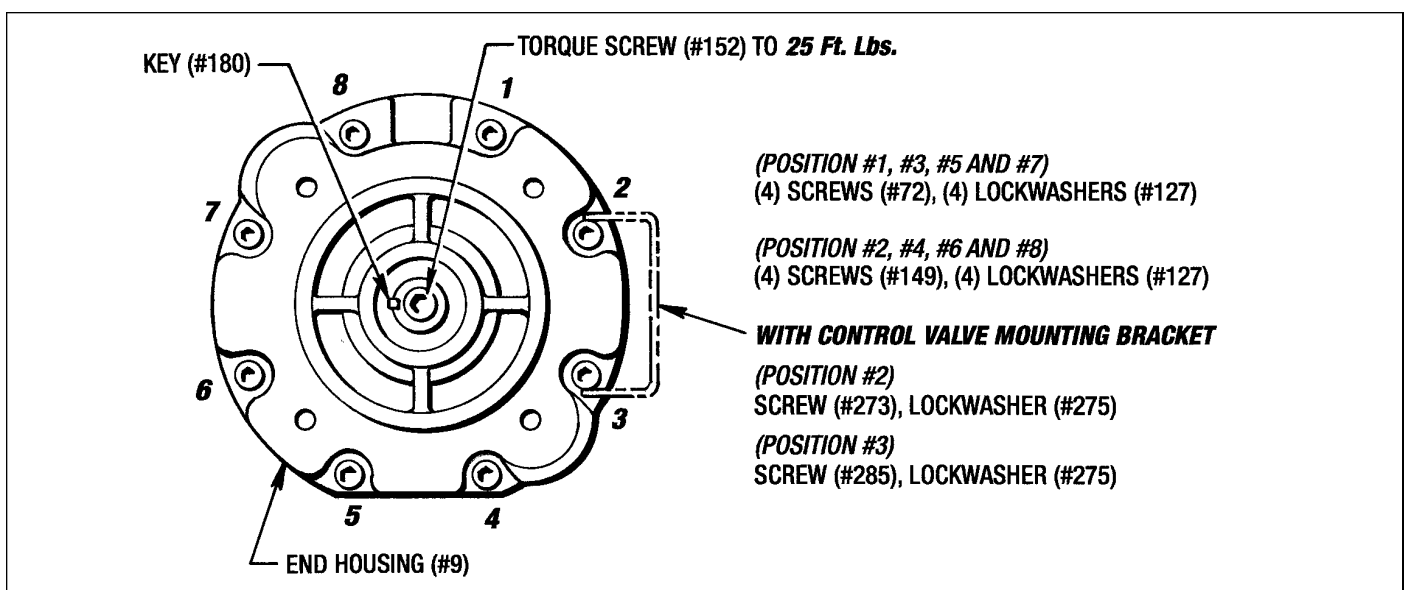

Figure 9.7 - Installing End Housing (#9)
- Put the Gasket (#122) on the Piston Housing (#10) mounting face. Use the (2) Pins (#158) for locating the gasket. **Do not use any Gasket Sealant on this gasket.**
- Very carefully slide the End Housing (#9) over the Hub (#2) and attach it to the Piston Housing (#10) with the appropriate mounting screws and lock-washers. (See Figure 9.7) Use the (2) Pins (#158) for positioning.